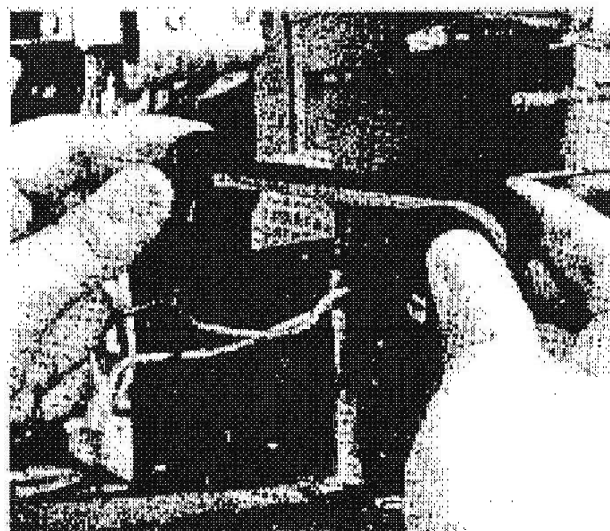

Figure 5
5. Hold ribbon as in Figure 5, sliding ribbon spools onto ribbon spindles. Replace cotter pins.